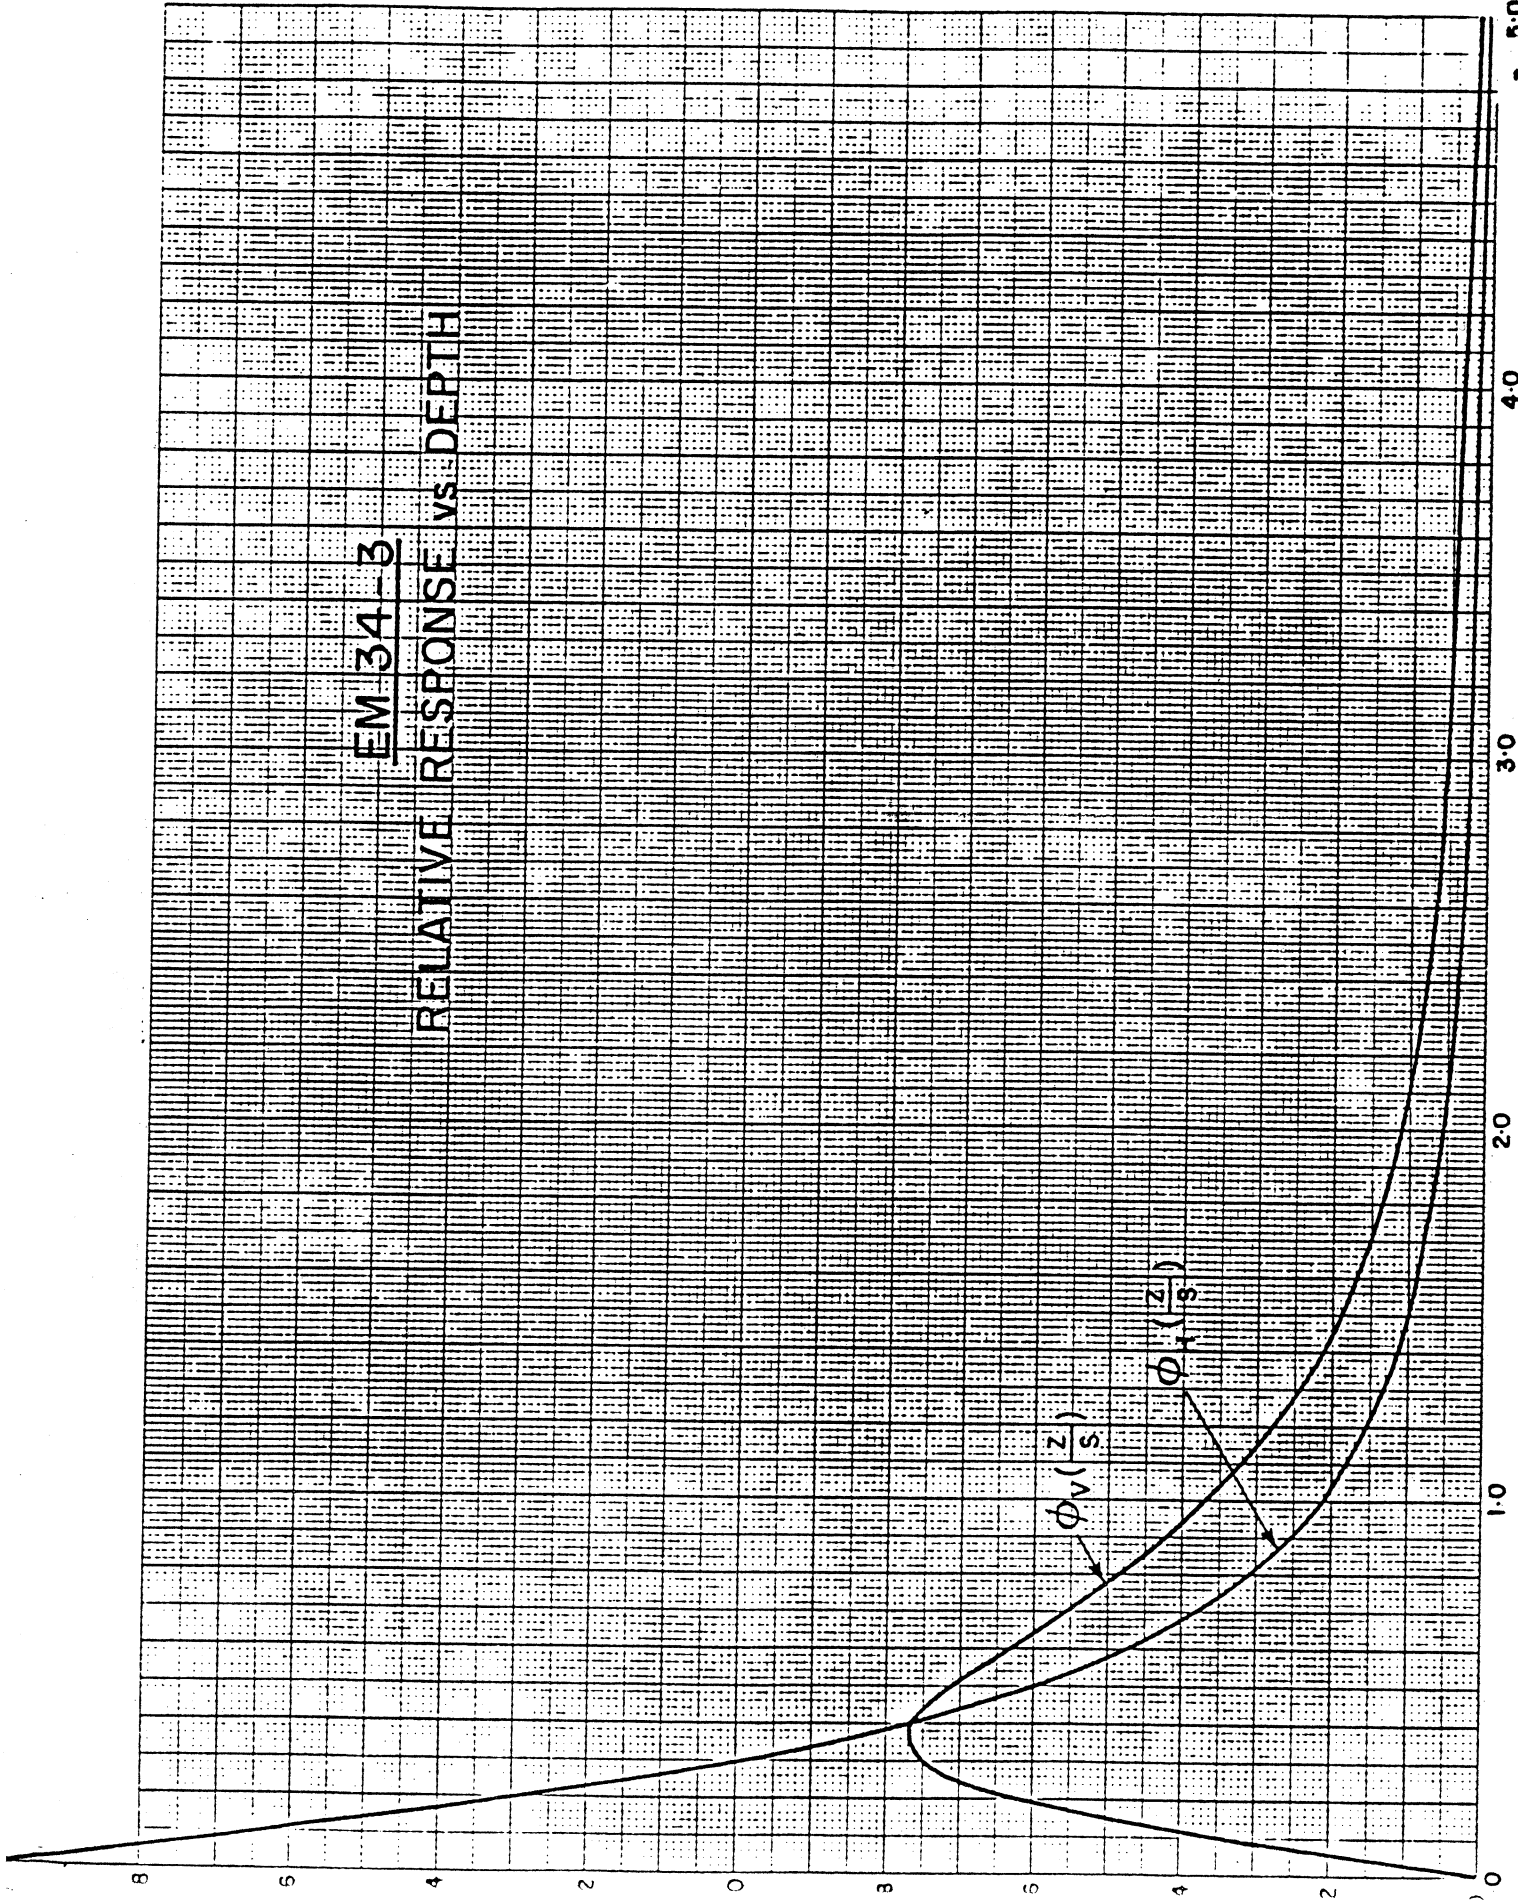

FIG 2
10.2 Relative Response with Depth: TN6 discusses in detail the fact that it is possible to calculate the relative response from material at different depths for either operating coil configuration. The results for the EM34-3 are shown in Fig. 2 where it should be noted that the x-axis is the depth divided by the (variable) intercoil spacing. The great difference in the response to near surface material from the two coil configurations is important; the horizontal dipole mode will be relatively sensitive to variations in the near surface material whereas the vertical dipole mode will be relatively insensitive to such changes.